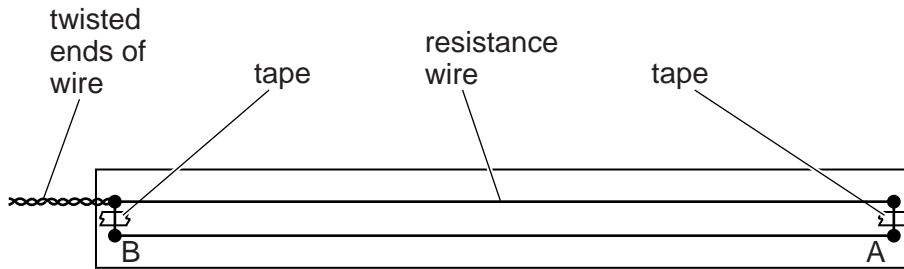

Fig. 1.2
- 3 The resistance wire should be looped around the nails and its ends tightly twisted as shown in Fig. 1.2. This wire loop should be secured to the board using adhesive tape as shown. The board should be labelled A and B next to two of the nails, as shown in Fig. 1.2.